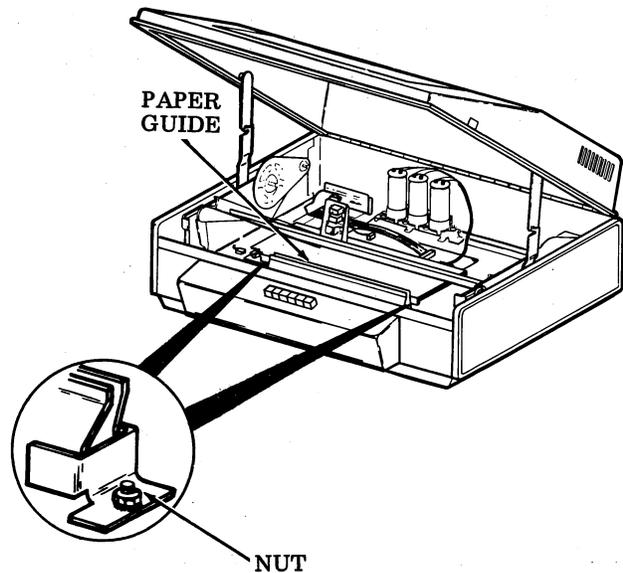

Fig. 16—Controller Removal
- (a) Loosen nut at each end of paper guide (Fig. 16).